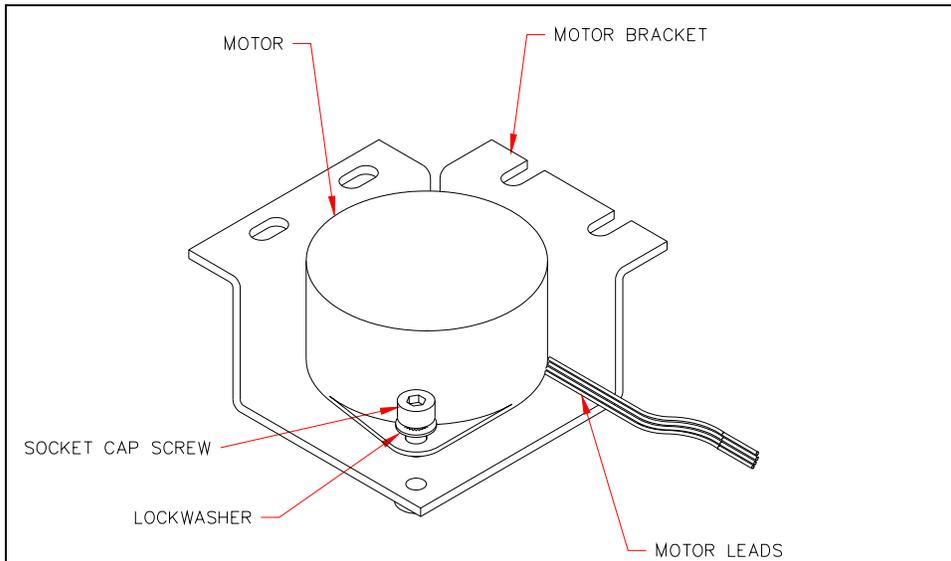

Figure 9-18 Motor and Mount
- 2 Remove the Motor bracket from the chassis (Figure 9-18).
- 5 Remove the Motor (Part No. 15000440) from the motor mount (Part No. 220000760) by removing the two M3 x 6mm socket head screws and M3 Lock Washers (Figure 9-18).